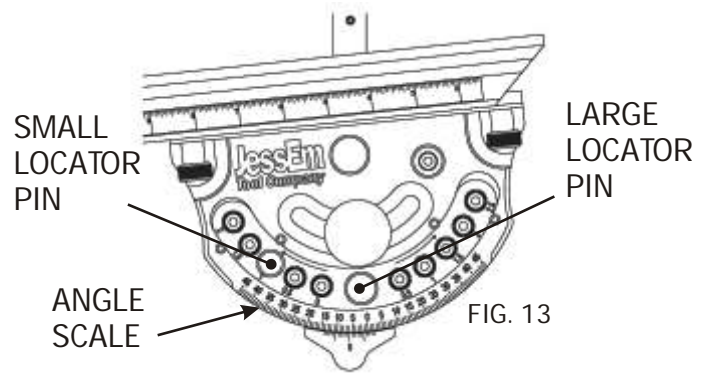

FIG. 13
13. The numbered peg holes on the left and right side are used to offset the gauge by .5, 1, 1.5, 2, and 2.5 degrees from every five degrees on the angle scale. Using the small locator pin in the holes on the left will give you that number of degrees left of every five degrees. Using the pin holes on the right will give you that number of degrees to the right of every five degrees. For example, placing the small locator pin in the (1) degree hole on the left gives you (1) degree left of every 5 degrees. Placing the small locator pin in the (1) degree hole on the right gives you (1) degree to the right of every five degrees. Fig. 13 shows the small peg in the 1 degree hole on the left side. This offsets the gauge by 1 degree increments to the left of every five degrees as you rotate the fence and use the large locator pin to lock in the actual position. The gauge is shown at 6 degrees in Fig. 13. (1) degree left of 5 degrees.